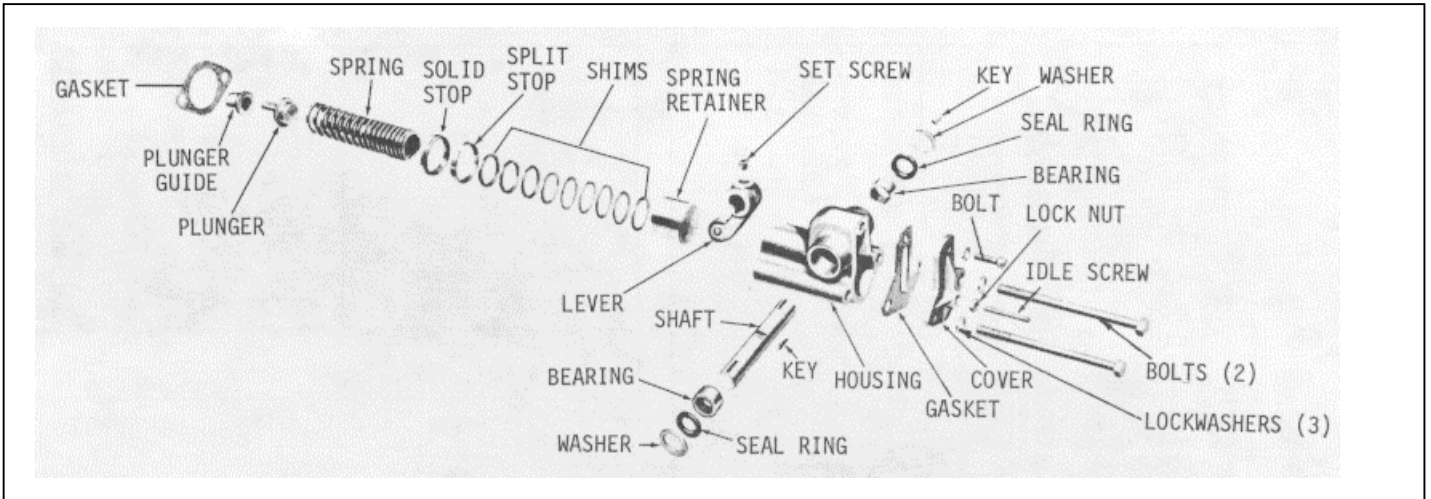

Fig. 13. Variable Speed Spring Housing and Shaft Details and Relative Location of Parts
- (1) Refer to Fig. 13 and insert the small end of the spring plunger in the plunger guide. Insert the solid stop in the governor control housing.
- (2) Place the spring retainer in the spring housing, with the closed end of the retainer against the spring lever. If shims were used, place them inside of the spring retainer. Insert the split stop in the spring housing and against the spring retainer.